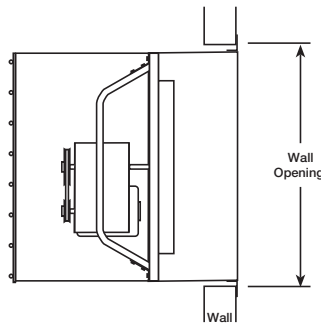

Figure 4 — Guard Through Wall Installation
- b. Figure 4 shows guard through wall installation for exhaust fans. First mount fan inside guard. Then slide guard with fan inside through wall. Fasteners are provided for this option. They are 5/8" sheet metal screws through sizes up to 48". For